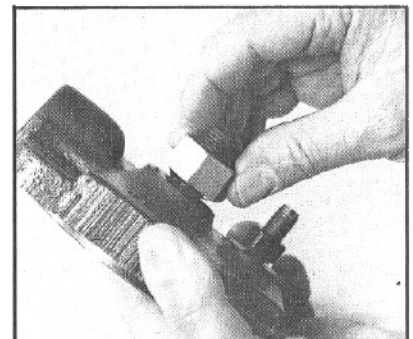

Figure 110
12. Install the worm shaft preload adjusting screw (39) into the end cover (37) or closed end of the gear housing (20) a few turns (FIG. 110). Final adjustments for steps 11 and 12 will be made later.